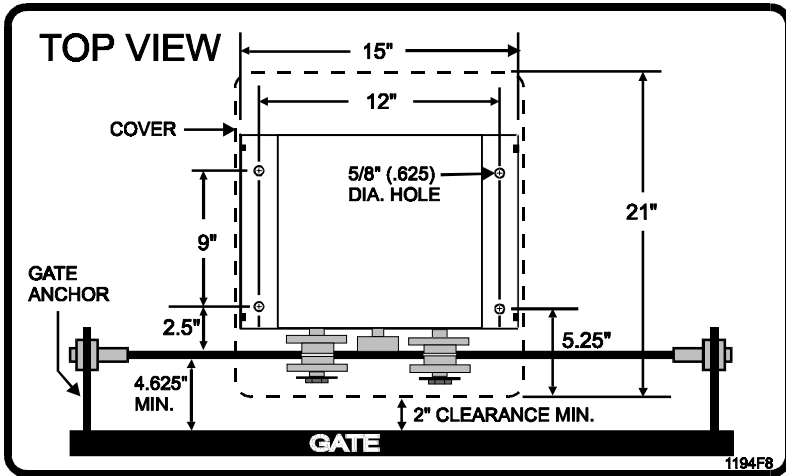

Figure 7. Mounting.
4. Mount gate operator on the cement pad using the previously installed anchor bolts (studs). Be sure the operator mounting is level and the chain face is parallel to gate movement (Figures 7 and 8).